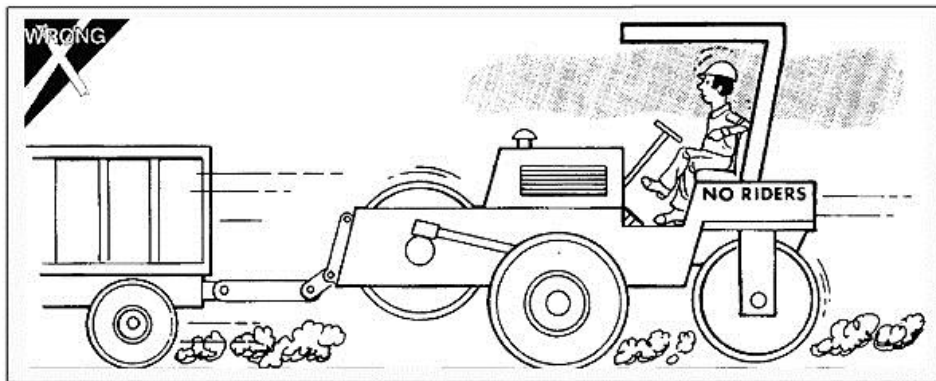

Figure. 1-15
- To tow the machine a maximum at over 300 meters. And abide by the local traffic regulations. Also don't tow the machine exceeding the allowed speed as stated in this manual. No persons on the roller during towing (as shown in Figure. 1-15)